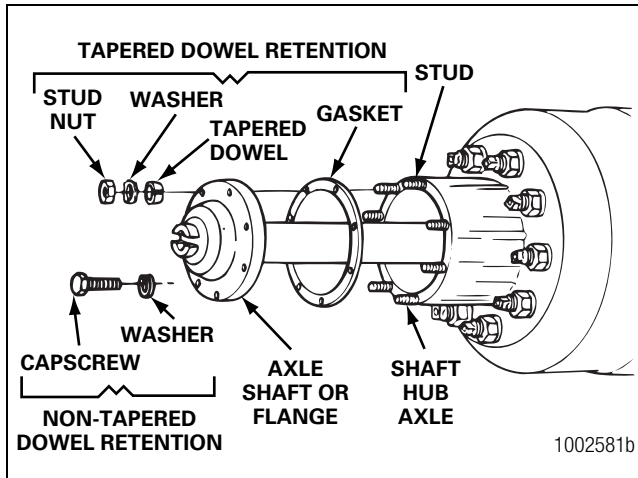

Figure 11.9
8. Remove the stud nuts or capscrews and the washers from the flange of the axle shaft. Figure 11.9.
9. Loosen the tapered dowels, if used, in the flange of the axle shaft. Refer to Section 3 for the recommended tools and removal procedures. Figure 11.9.
10. Remove the tapered dowels, the axle shafts and gaskets, if used. Figure 11.9.
- 6. Install the gasket, if used, and axle shaft into the axle housing and carrier in the same location. The gasket and flange of the axle shaft must be flat against the hub. Rotate the axle shaft or the driveline as necessary to align the splines and the holes in the flange with the studs in the hub. Figure 11.9.